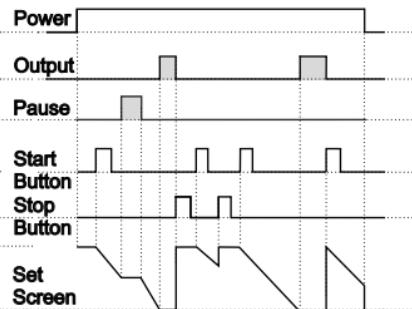

Figure 2.2
2.2.2 If Downcount ***dEct***=1 and ***outF*** is ***oFF*** the control diagram is shown in Figure 2.2